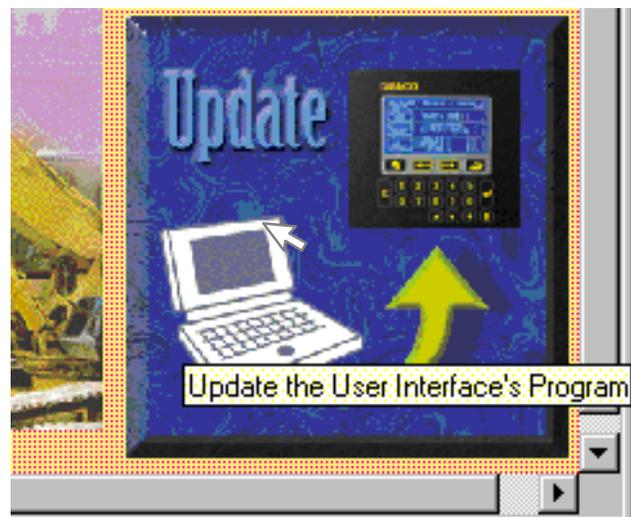

Fig. 13.37
1. Select File ► Update ► User Interface Program (Fig. 13.36) or press the Update User Interface Program button (Fig. 13.37).